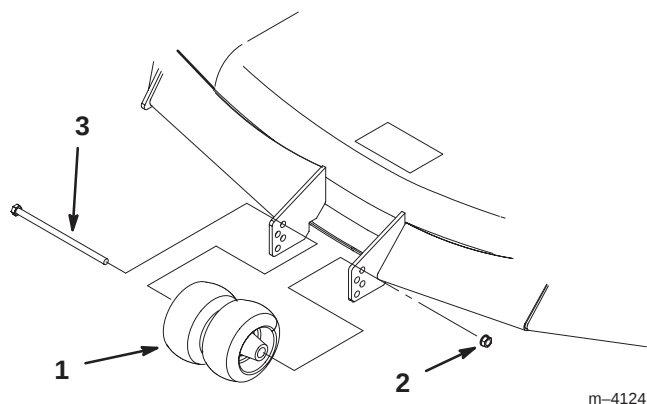

Figure 21
1. After adjusting the height-of-cut, remove the bolt and nut (Fig. 21).
2. Select a hole so that the gage wheel is positioned to the nearest corresponding height-of-cut desired (Fig. 21).
3. Reinstall the bolt, center rollers, and nut (Fig. 21).